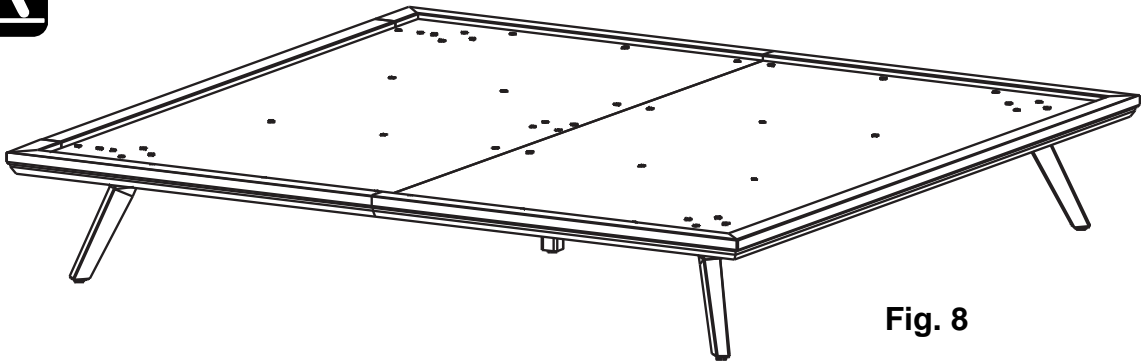

Fig. 8
8.  **CAUTION NEEDED:** Flip the Platform Assembly over onto the feet. Use extreme care not to bump into light fixtures, ceiling fans, walls, ceiling, or other objects in the room. Protect the corners of the Platform. Do not apply force to the Foot Assemblies (Q). Carefully slide the Platform carton out from beneath the Platform Assembly and recycle or discard. See Figure 8.